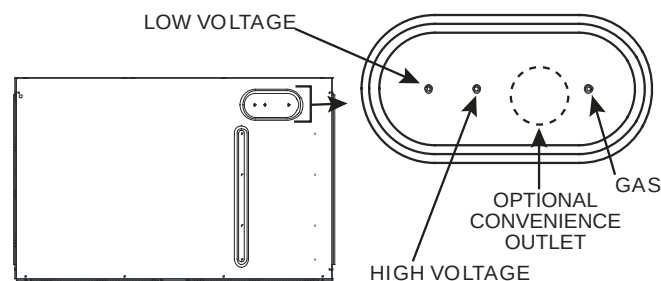
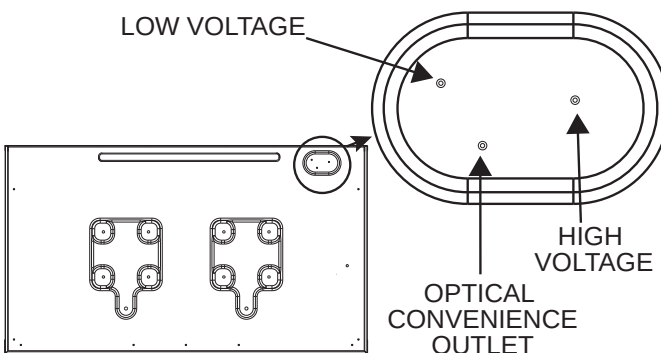

Fig. 1 - 3 - 6 Ton Basepan
Fig. 2 - 7.5 - 12.5 Ton Basepan
Hail Guards are to be installed on the outside of the condenser coils, see figures 1 and 2.
For installation, slide the top of the Hail Guard up and under the Top Panel flange, then push the bottom of the Hail Guard into position. With one hand holding guard up to the unit, put one screw into each corner of the guard to hold it onto the unit. Do the same for remaining guards. For installation of Hail Guard see Figure 1 and Figure 2. Use screws supplied with kit. Do not use longer screws - longer screws may damage the coil.
Hail Guards Installation Figure 1
Hail Guards Installation Figure 2
Each unit is equipped with a raised (embossed) surface in the basepan. This area is located in the compressor compartment (outdoor section) of the unit (see Figure 1). The embossment of the basepan contains three (3) dimples for locating cutouts. Holes can be field cut in the embossed surface so that high voltage power, control wires, and gas connection can be routed through the roof curb basepan